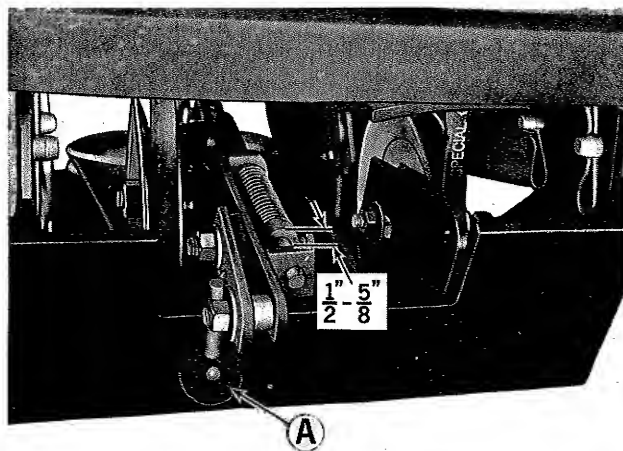

Figure 11. Mower drive belt in place and tightened.
13. See figure 11. Push the belt tightening handle (A) down and back to tighten the belt.
14. Check the distance between the set collar and rod guide as shown in figure 11. If the distance is not 1/2" to 5/8" adjust the belt tension as explained on page 7 of this manual.
4. See figure 11. Pull the belt tightening handle (A) forward to release the belt tension.